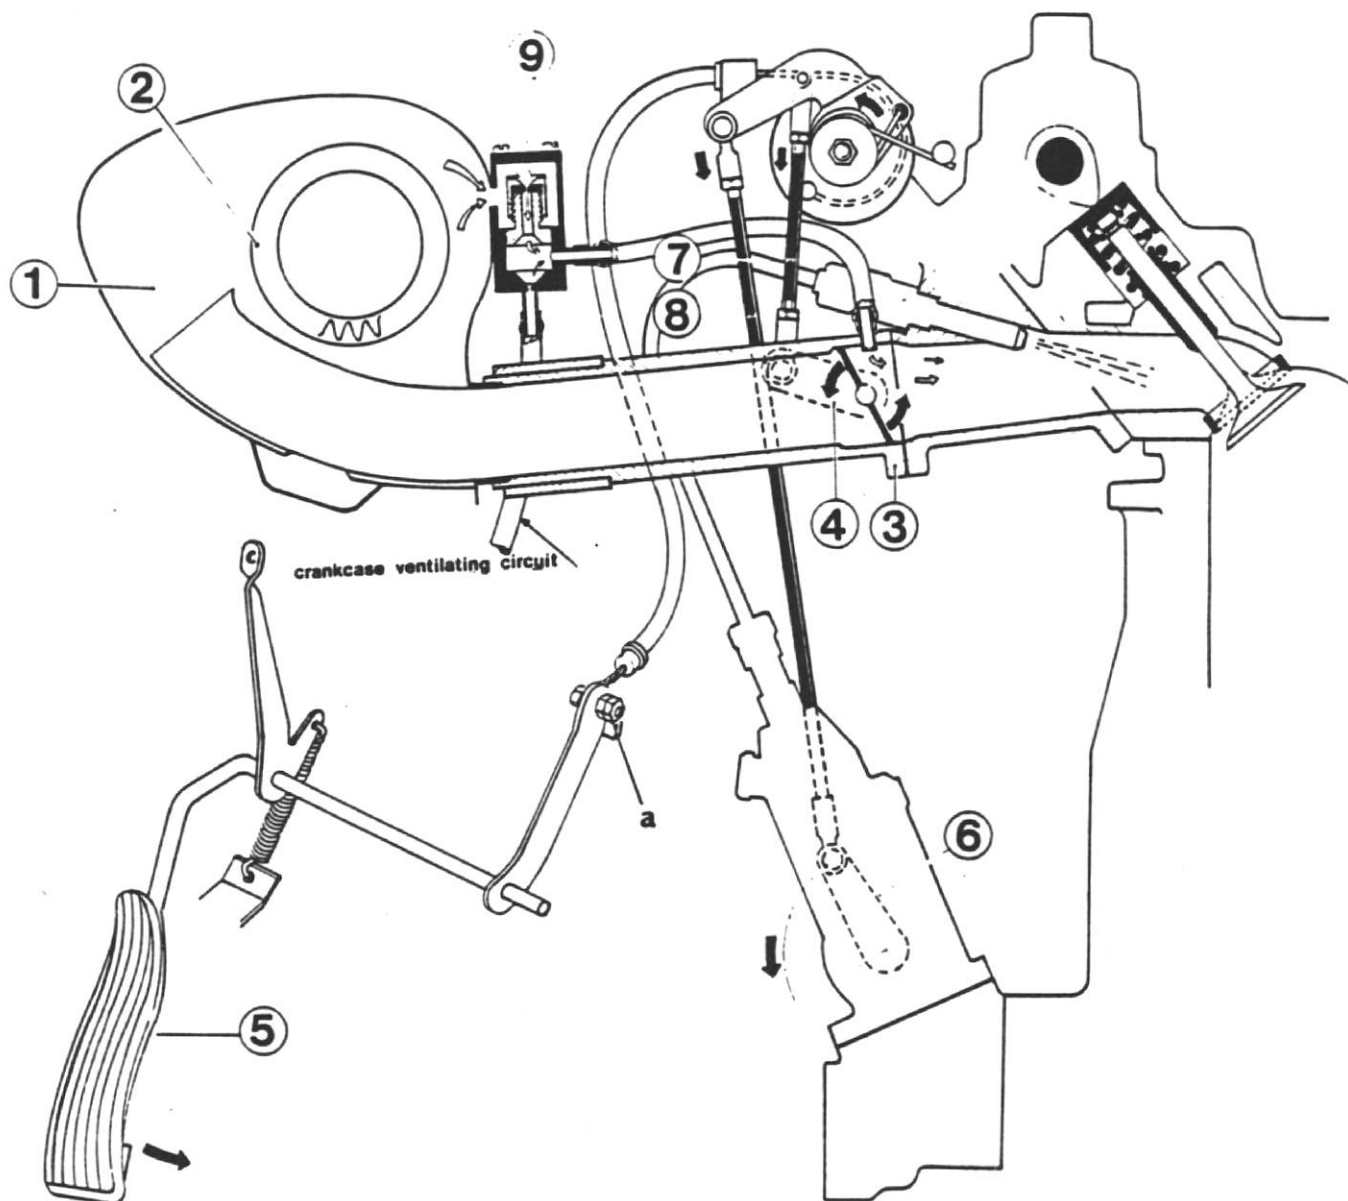

Fig. 2
The idling air (throttle valves closed) is fed thru a separate circuit which, starting from the air cleaner connects to the intake ports downstream of the throttle valves and includes the idle equalizers (9) (see fig. 2).